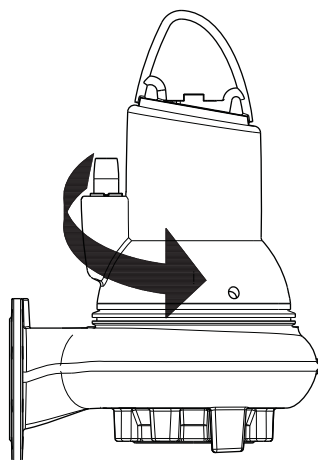

Fig. 15 Jerk direction
2. Start and stop the pump while observing the movement (jerk) of the pump. If connected correctly, the pump will rotate clockwise, i.e. it will jerk counter-clockwise. See fig. 15.